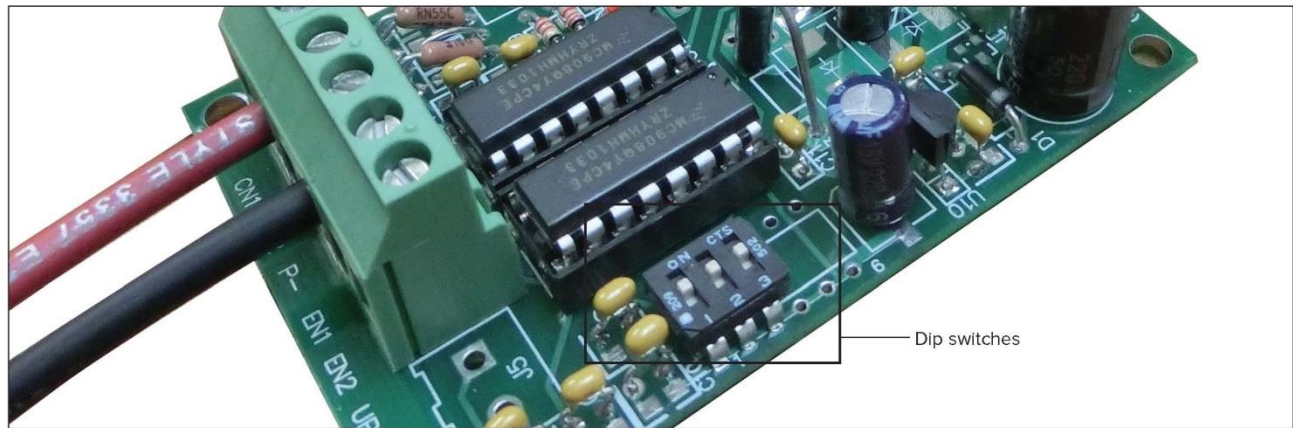

Figure 8. Location of Dip Switches
- The dip switches are used to set up the PWM frequency to the valve coil (See Figure 7). Sierra has done extensive testing and recommends the settings below (See Figure 8). If the VC-2 is purchased as a package with SmartVO and application conditions are provided, Sierra will set up the optimal frequency for the application at the factory. In general, 1.5 Hz is recommended.